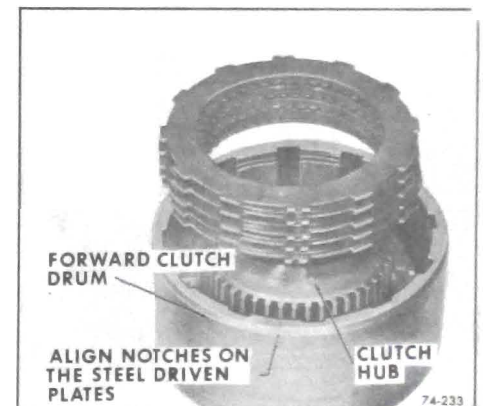

Figure 74-233
9. Install steel driven plates and line drive plates alternately, beginning with a steel driven plate. See Figure 74-233.